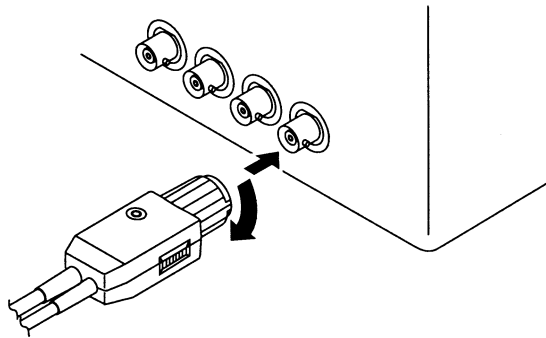

Figure 3 Connecting the Probe to the Oscilloscope
- 6 Connect the probe's output connector to the oscilloscope's input connector as shown in **Figure 3** on page 12. Turn the collar until it clicks, and check that it is locked securely.